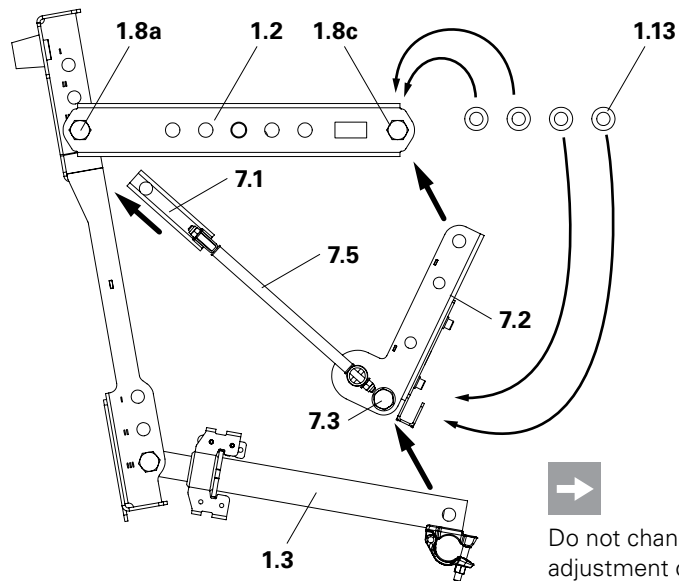
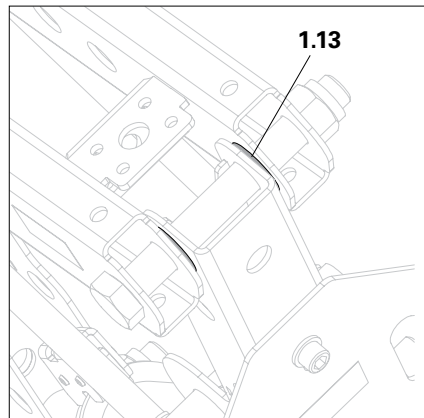

Fig. B2.02
Fig. B2.03
1. Remove bolt (1.8c) with wrench SW 36. (Fig. B2.02)
4. Secure the connecting piece (7.1) of the Overhang Adapter (7) to the Cantilever Arm using the bolt (1.8c). The extension piece (7.2) of the Overhang Adapter must be pointing upwards.
5. Secure the extension piece to the top hole on the Cantilever Arm with the bolt (1.8c). Place a washer (1.13) between the Cantilever Arm and extension piece. (Fig. B2.03)